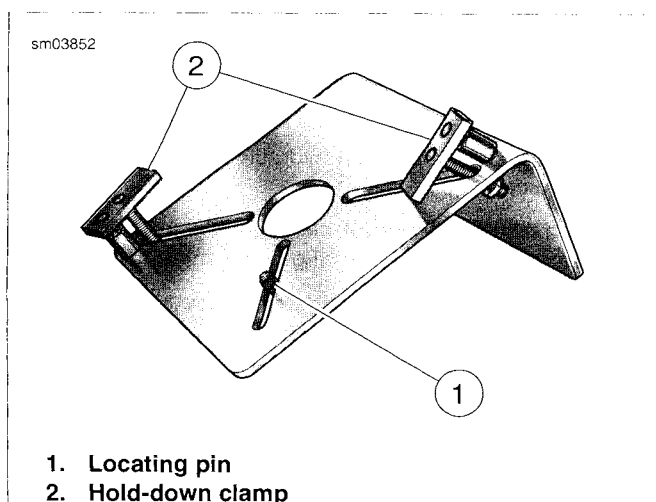

Figure 3-150. Flywheel Fixture (Part No. HD-44358)
1. Obtain FLYWHEEL SUPPORT FIXTURE (Part No. HD-44358). See Figure 3-150. Install brass jaws or shop towels around teeth of vise to prevent damage to tool. Clamp tool in vise with the round hole topside.